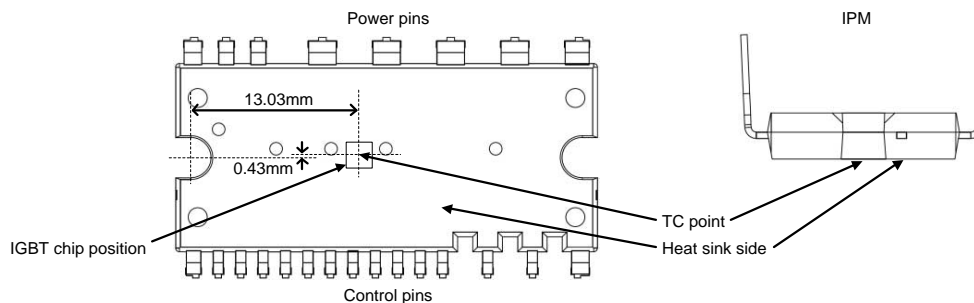

Figure 1. TC Measurement Point
- For the measurement point of case temperature (TC), please refer to Figure 1.